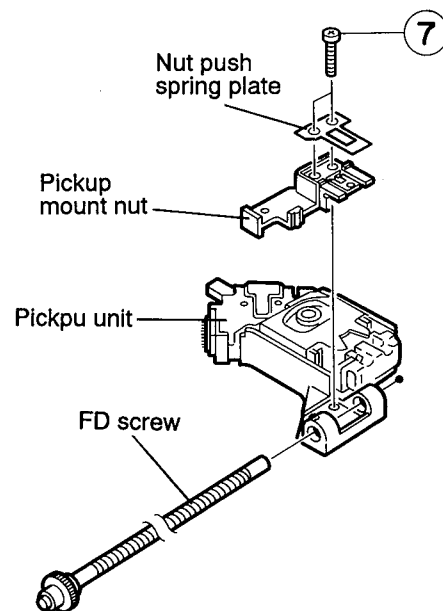

Fig. 4-22
8. By removing the two screws ⑦ retaining the pickup unit, dismount the nut push spring plate and pickup mount nut (See Fig. 4-22).
9. Remove the FD screw from the pickup unit (See Fig. 4-22).